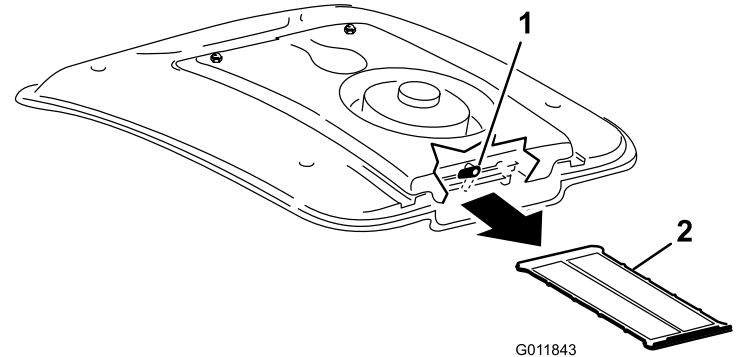

Figure 56
2. On the rear of the fan mount, rotate the latch to the side (Figure 56).
3. Slide the A/C screen out from under the air conditioning coil (Figure 56).
4. Clean the screen thoroughly with compressed air (Figure 56).